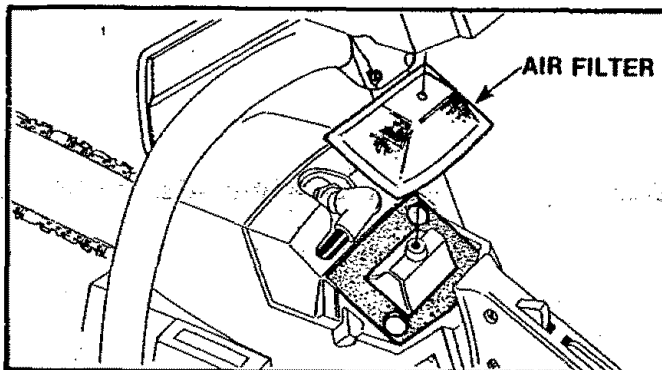

Figure 54
3. Remove the carburetor cover. Figure 54.